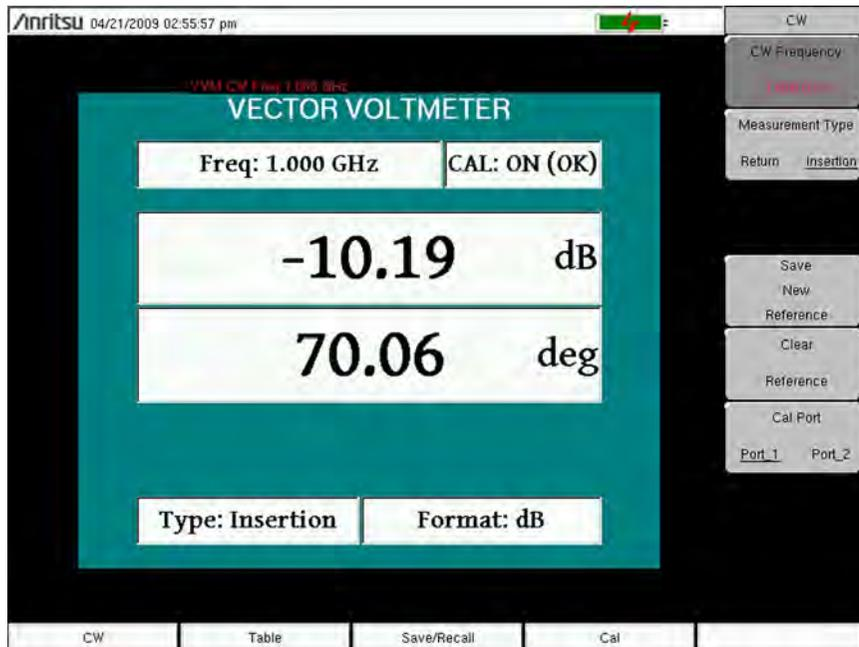

Figure 11-4. Continuous Wave Menu
10. Connect the DUT for measurement at the desired Port. The display should appear similar to the image in Figure 11-4 on page 11-8. The measurements and display parameters on your instrument display may differ from those in this user guide.
When you choose the Measurement Type and the Cal Port, the VNA Master matches these measurement settings with the current calibration. If a match is found, then the current calibration is applied to the measured data, and the Cal info box on the display (refer to Figure 11-4 on page 11-8) shows “**CAL: ON (OK)**”. If no match is found (for example, the calibration was for S_{11} , but the Cal Port is set to Port 2), then the display shows “**CAL: --**”. Adjusting the setting (the Measurement Type or the Cal Port) to match the calibration will automatically apply the correction. The calibration correction can also be turned off manually under the Calibration menu by toggling the Cal Correction soft key from On to Off. In that case, the display will show “**CAL: OFF**”.